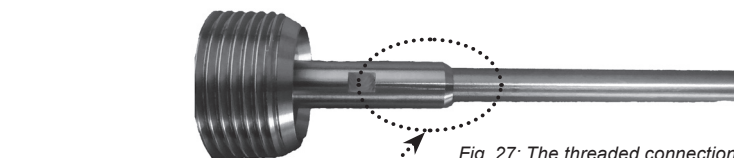

Fig. 27: The threaded connection of the electrode holder with the rod electrode
1. Heat the junction place (threaded connection) of the electrode and the electrode holder (see Fig. 27 and 28) using a heat gun at about 120-150 ° C (or 220-250 ° C for high temperature version).